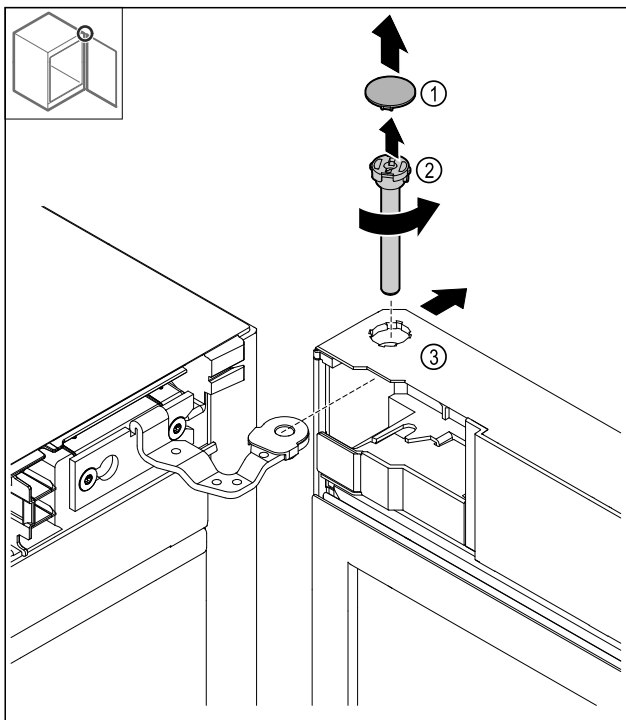

Fig. 10
- ▶ Removing the cover Fig. 10 (1).
- ▶ Loosen the bolt Fig. 10 (2) anti-clockwise and pull it out.
- ▶ Tilt the door Fig. 10 (3) slightly.